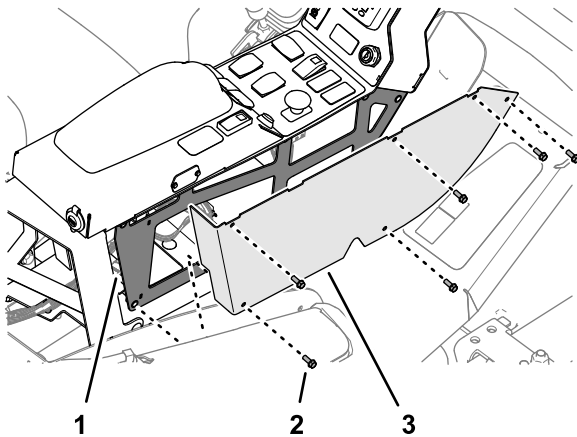

Figure 2
1. At the outboard side of the control console, remove the 5 flange-head capscrews that secure the right control-console cover (Figure 2).